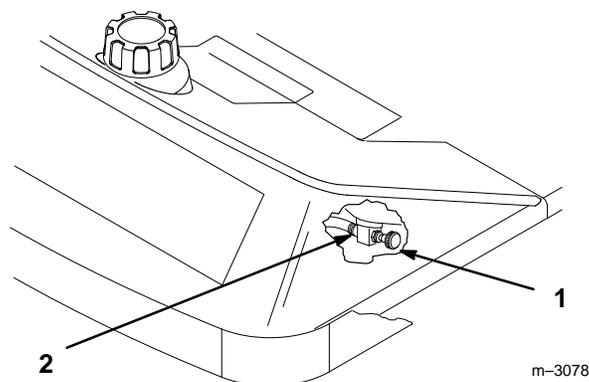

Figure 24
2. Close fuel shut-off valve at fuel tank (Fig. 24).
3. Squeeze the ends of the hose clamp together and slide it up the fuel line away from valve (Fig. 24).
4. Pull the fuel line off the valve (Fig. 24). Open fuel shut-off valve and allow gasoline to drain into a gas can or drain pan.
6. Open fuel shut-off valve at fuel tank (Fig. 24).